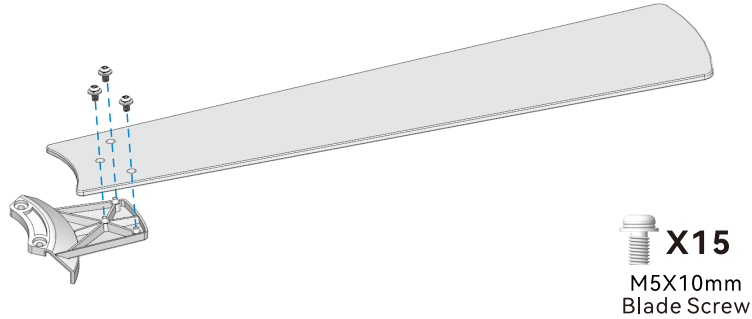

Fig. 1.1
- 1.1 Locate the blade attachment screws included in the hardware pack. Use these screws to firmly attach each blade to the blade bracket, as demonstrated in Fig. 1.1.